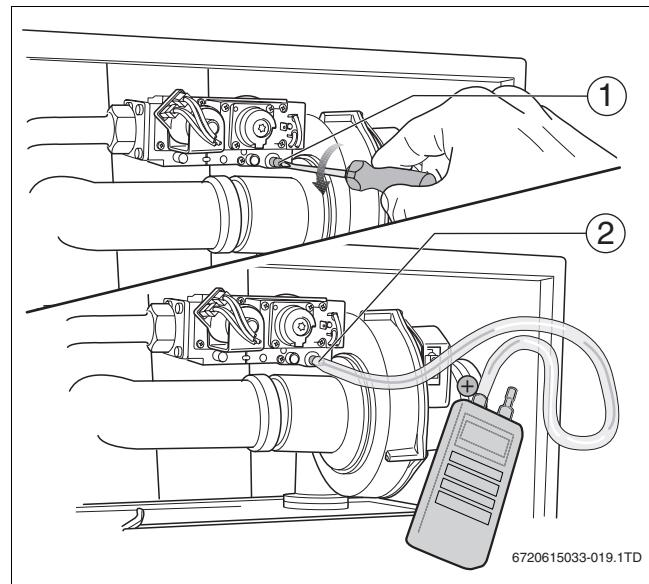

Fig. 15 Checking the gas/air ratio
- ▶ Loosen the screw plug on the measuring nipple for the burner pressure by two rotations (→ fig. 15, [1]).
- ▶ Use a hose to connect the plus terminal of the pressure gauge to the burner pressure measuring nipple (→ fig. 15, [2]).